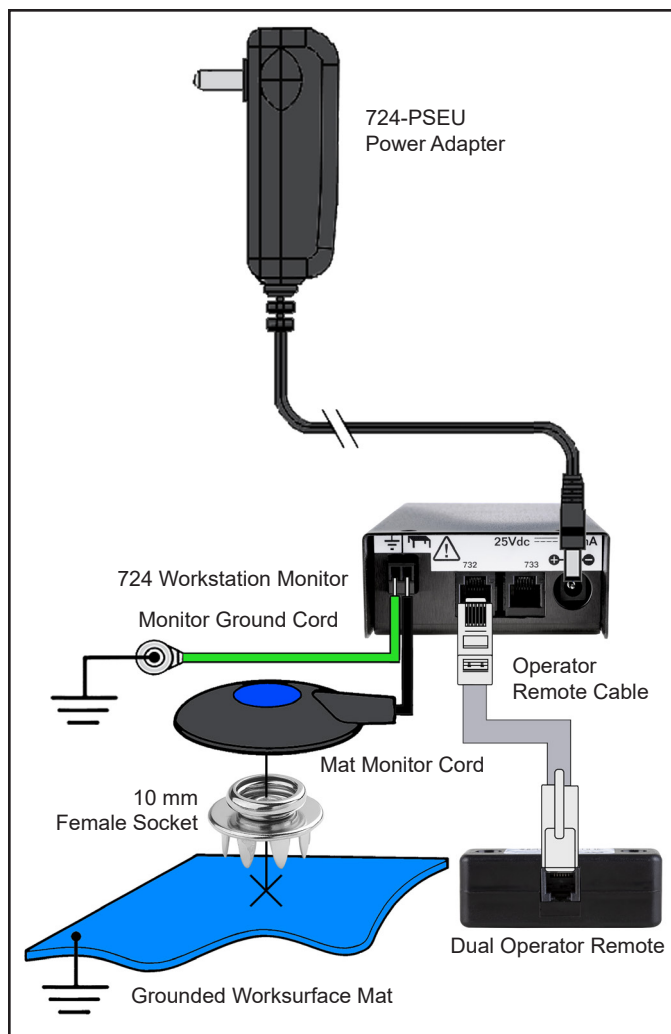

Figure 7. Installing the 724 Workstation Monitor using the 724-PSEU Power Adapter
6. The 724 Workstation Monitor may be grounded using either its North American power adapter or the included green monitor ground cord. See Figures 7 and 8.